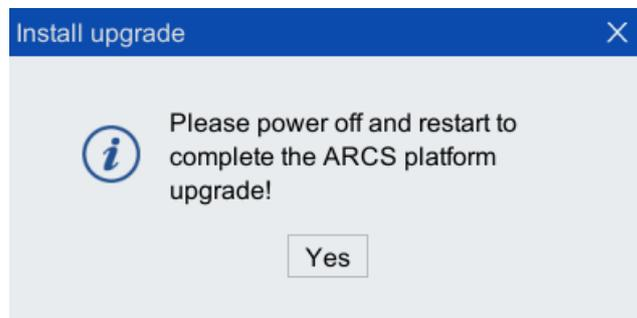

Figure 8-57 "Please power off and restart to complete the ARCS platform upgrade!" prompt box
Step3.After the upgrade is completed, the "Please power off and restart to complete the ARCS platform upgrade!" prompt box as shown in Figure 8-57 pops up. After clicking the <Yes> button, power off and restart to complete the platform update.